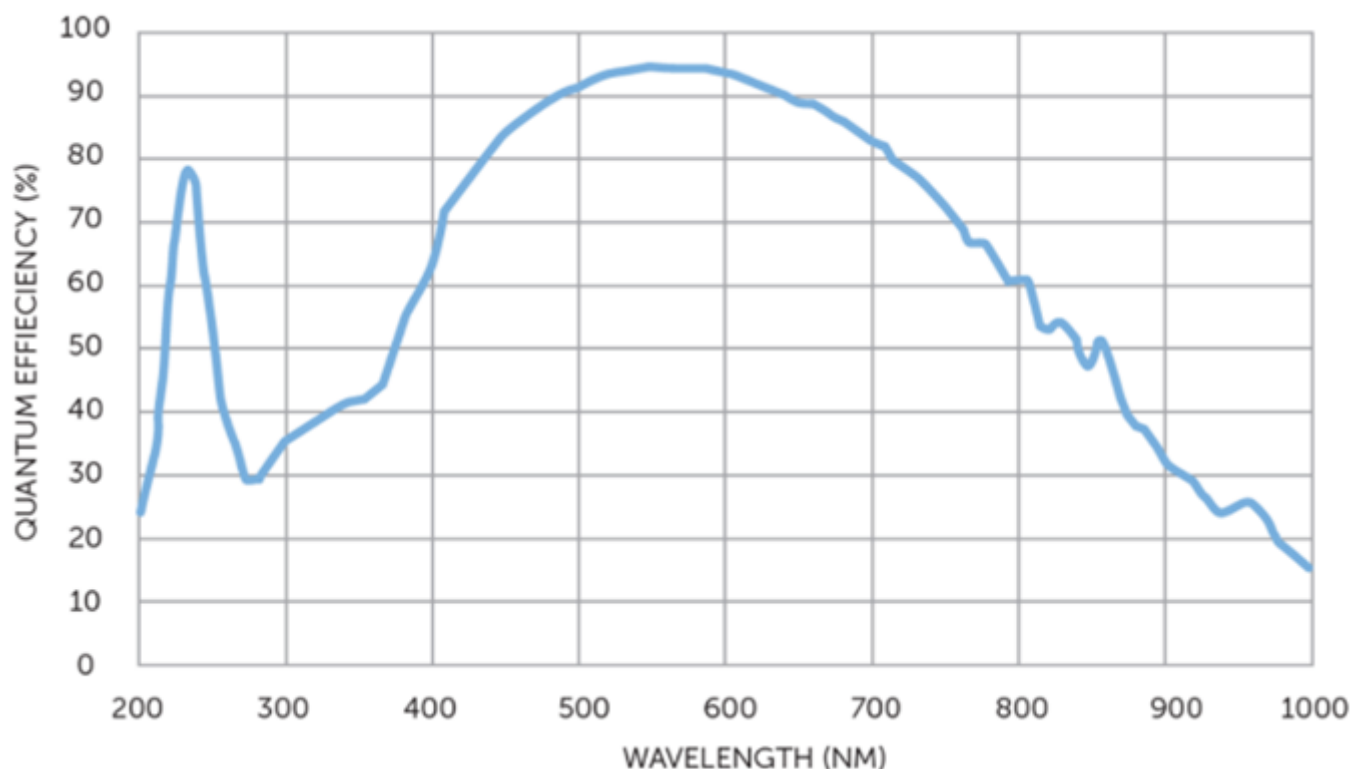

Figure 9: Quantum Efficiency as a function of wavelength.
The **Quantum Efficiency** (QE) and the **readout noise** of the detector also impact the quality of the images you can acquire (Figure 9).